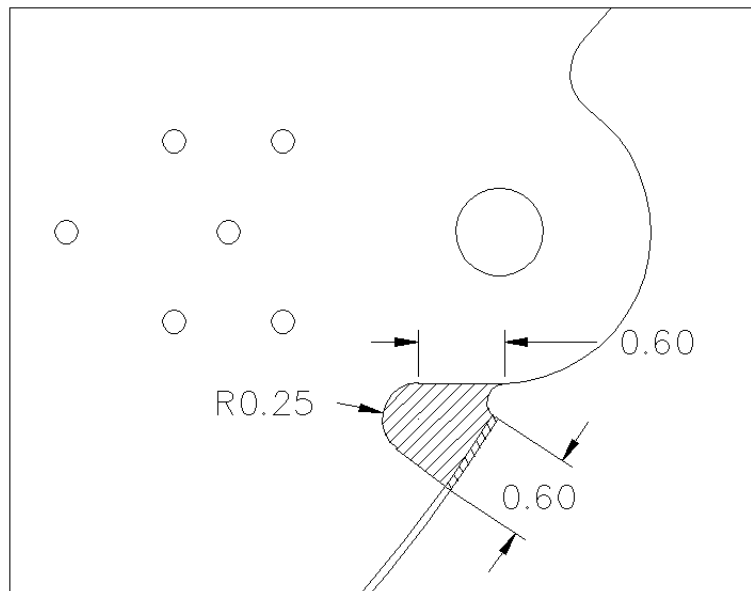

Figure 6: Fuselage Rib Modification.
- 2) Check the length of any crack(s) is/are less than the maximum rework dimensions shown in Figure 6. If the crack(s) is/are shorter, proceed to the next section. Otherwise you may either contact GippsAero or do **Part 5** of this Service Bulletin.
- 1) Remove material in the shaded area by blending to achieve the dimensions shown in Figure 6.